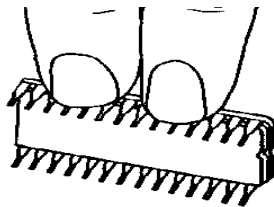

Figure A.1: Aligning PROM or PLD Pins
1. Before installing the new chip, verify that its pins are all evenly spaced and vertically aligned. If necessary, align the IC pins properly prior to installation. To align the pins, you can either use a commercially available pin-straightener tool, sized for a 28-pin DIP device, or you can lay the PROM or PLD on its side and gently press the top *edge*, being careful not to press on the pins (Figure A.1). Repeat this procedure for the other row of pins.